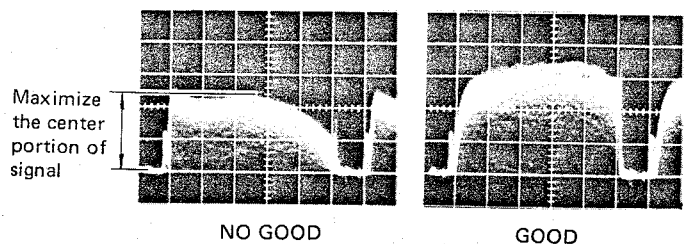

Fig. 6-4-1
- Connect the oscilloscope to TP307(B) and TP308(R).
- Adjust FOCUS VR203 so that the center portion of B and R signal waveforms at TP307 and TP308 become maximum. (Fig. 6-4-1)